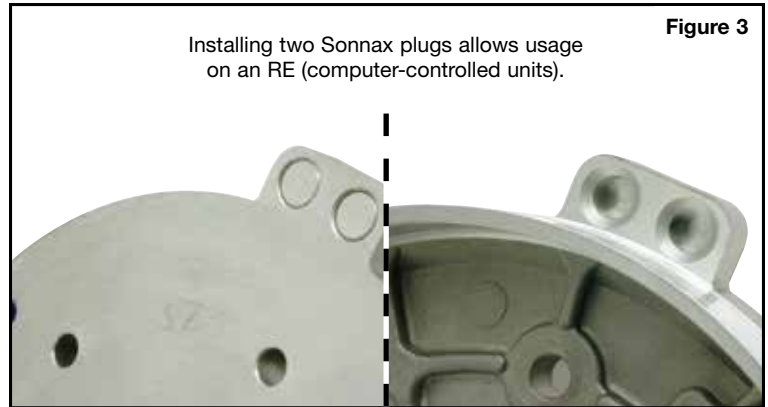

Figure 3
- b. If the retainer is being installed on an 46RE unit, press two Sonnax aluminum plugs into the governor tube holes (Figure 3).